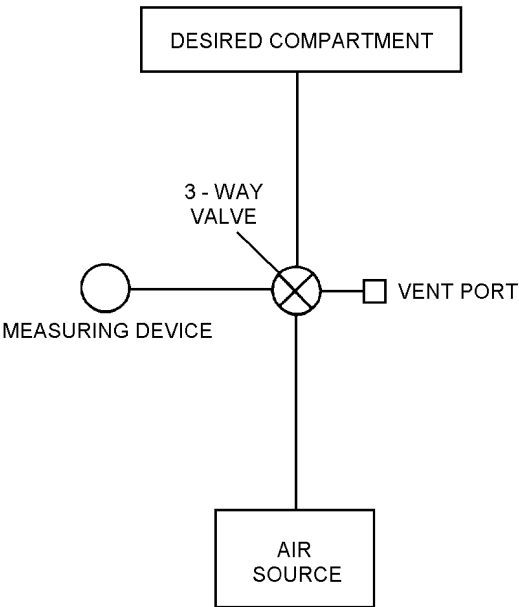

Figure 15-3. Test Fixture Schematic 10150003
**15-48. Test Fixture.** A suggested test fixture, consisting of a three-way valve, pressure gage, and adapters for compartments being tested, is shown in Chapter 3. Fixtures must be fabricated to meet the requirements of the schematic shown in figure 15-3.